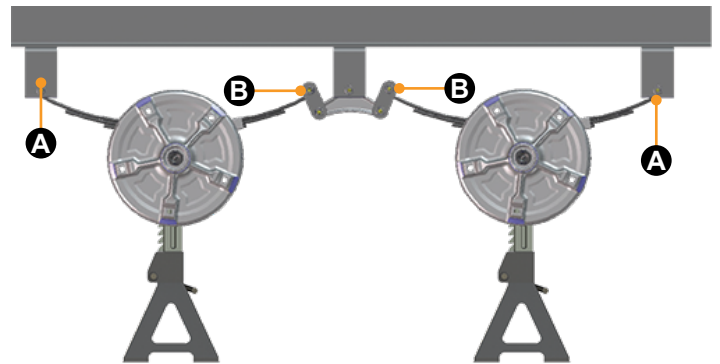

Fig.2
7. Using a floor jack, lift the axle or axles slightly and place additional properly-rated jack stands under the axles (Fig.2) so the shackle bolts can be driven out with a hammer.